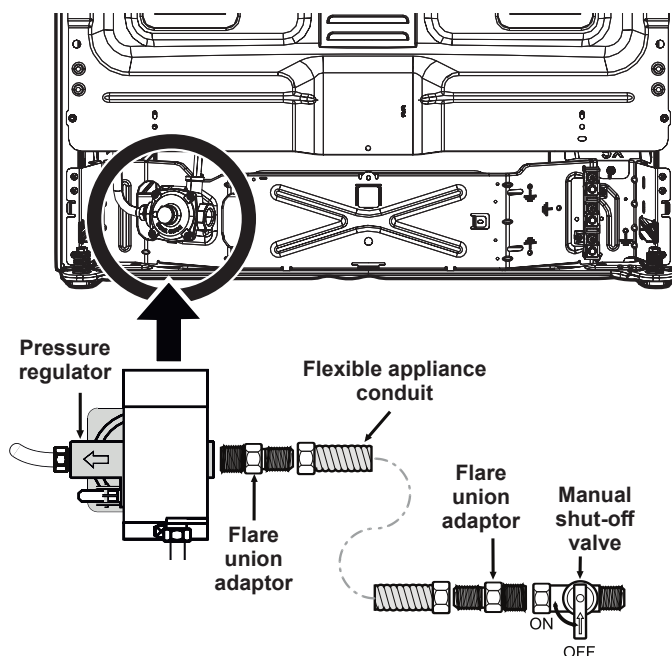

Fig. 8 - gas supply connections
- a. Install an external manual gas shut-off valve to gas supply line in an accessible location outside of range. Be sure you know where and how to shut off the gas supply to the range (See Fig. 8).
- b. Install 1/2" flare union adapter to gas pressure regulator using no more than 15ft./lbs. of torque (Refer to Fig. 8).
- d. Install flare union adaptor to external manual shut-off valve (See Fig. 8).
- e. Attach flexible appliance conduit to flare union adaptor on shut-off valve (See Fig. 8).